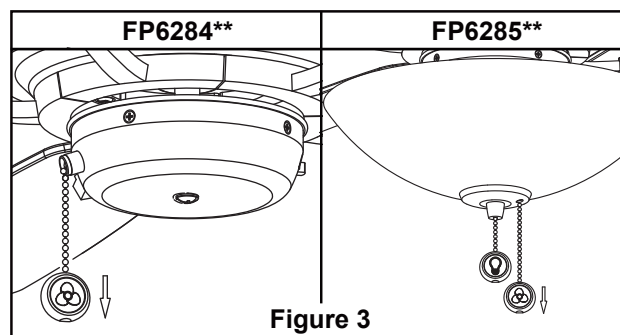

Figure 3
- ☐ **3.** Check the operation of the fan by gently pulling on the fan pull chain. (Figure 3)